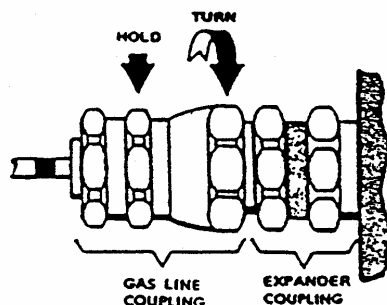

Figure 13 Connect Aeroquip Coupling
1. Using two wrenches, connect one end of the cold head supply gas line to the supply (red) coupling on the cold head (expander). Tighten all Aeroquip couplings to 4.8 ± 0.7 kg m (35 ± 5 ft. lbs.). See Figure 13.